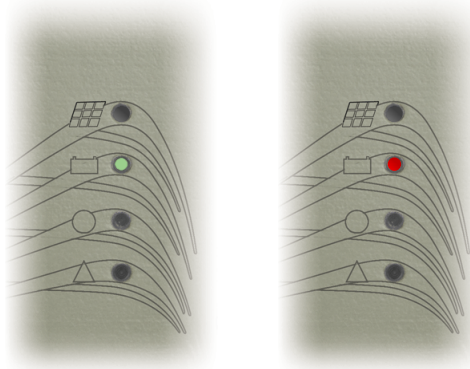

Figure 52 Status Indicator
At the end of the file transfer the FLEXmax 100 **STATUS** LED indicator will flash green rapidly. It will change to flashing red slowly, then flash red more quickly. See Figure 52 (on the next page) or page 29.
10. Still pressing the **RESET** button, watch the LED indicators on the FLEXmax 100. (See Figure 52.) When the **STATUS** LED indicator flashes green rapidly, the programming process has started. It is safe to release the button.